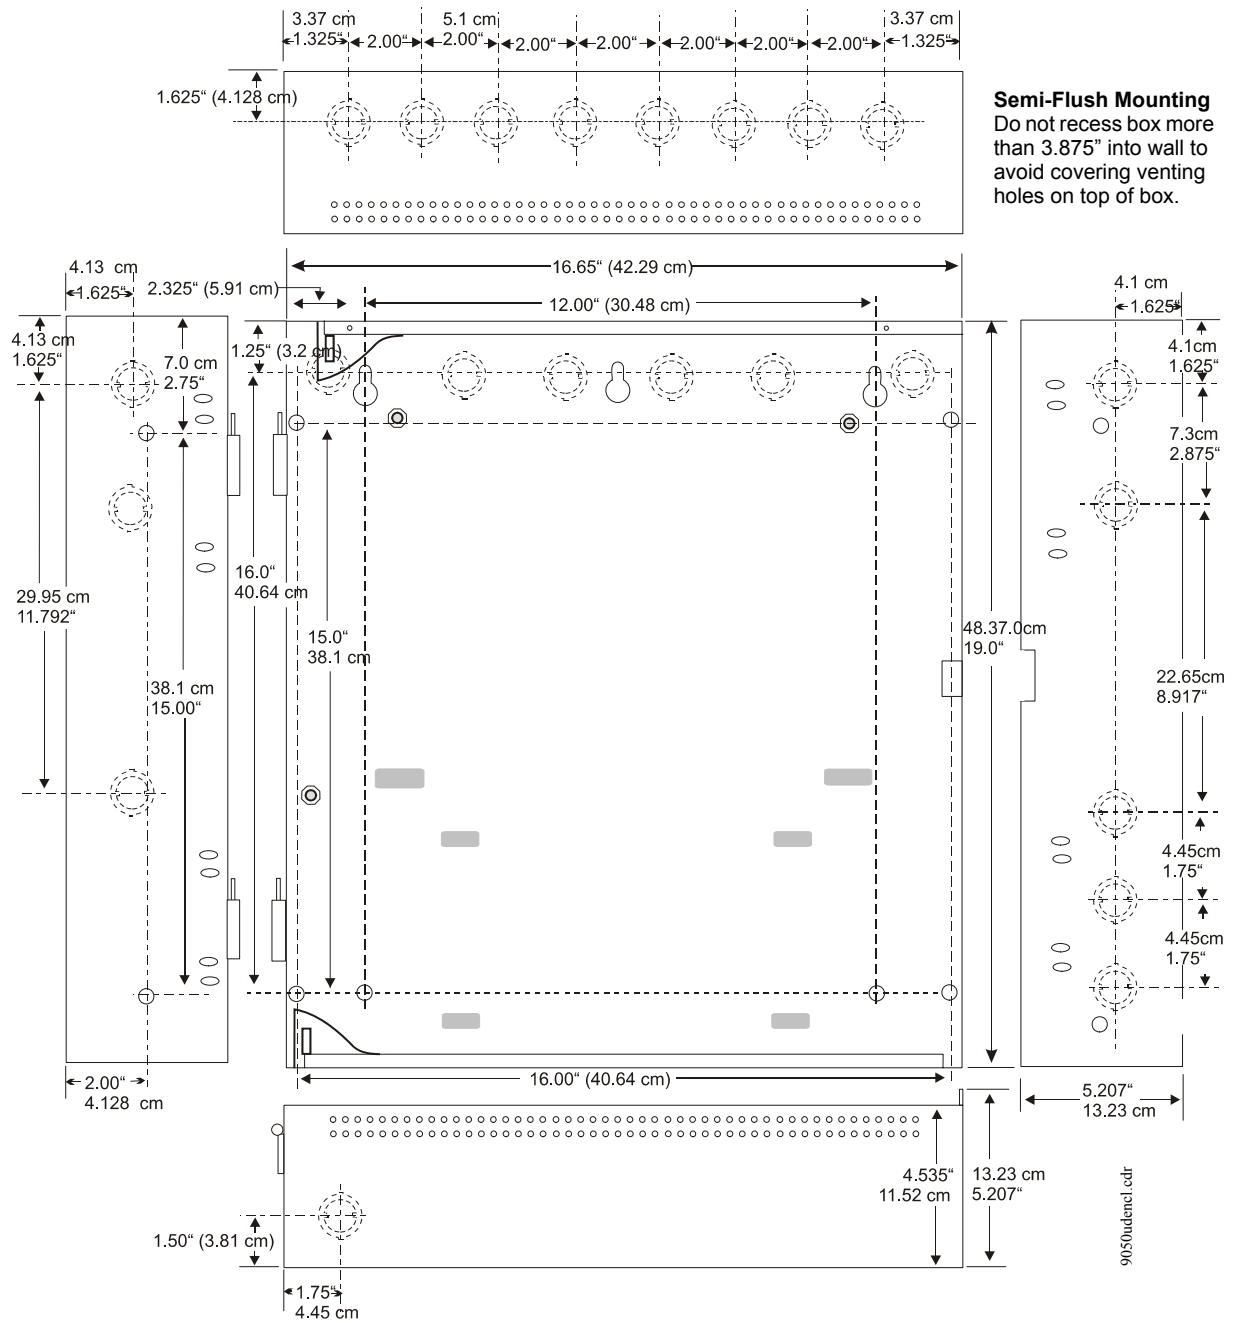

Figure 2.3 NFW2-100 Cabinet Mounting
- Mark and predrill hole in the wall for the center top keyhole mounting bolt using the dimensions illustrated in Figure 2.3 on page 25